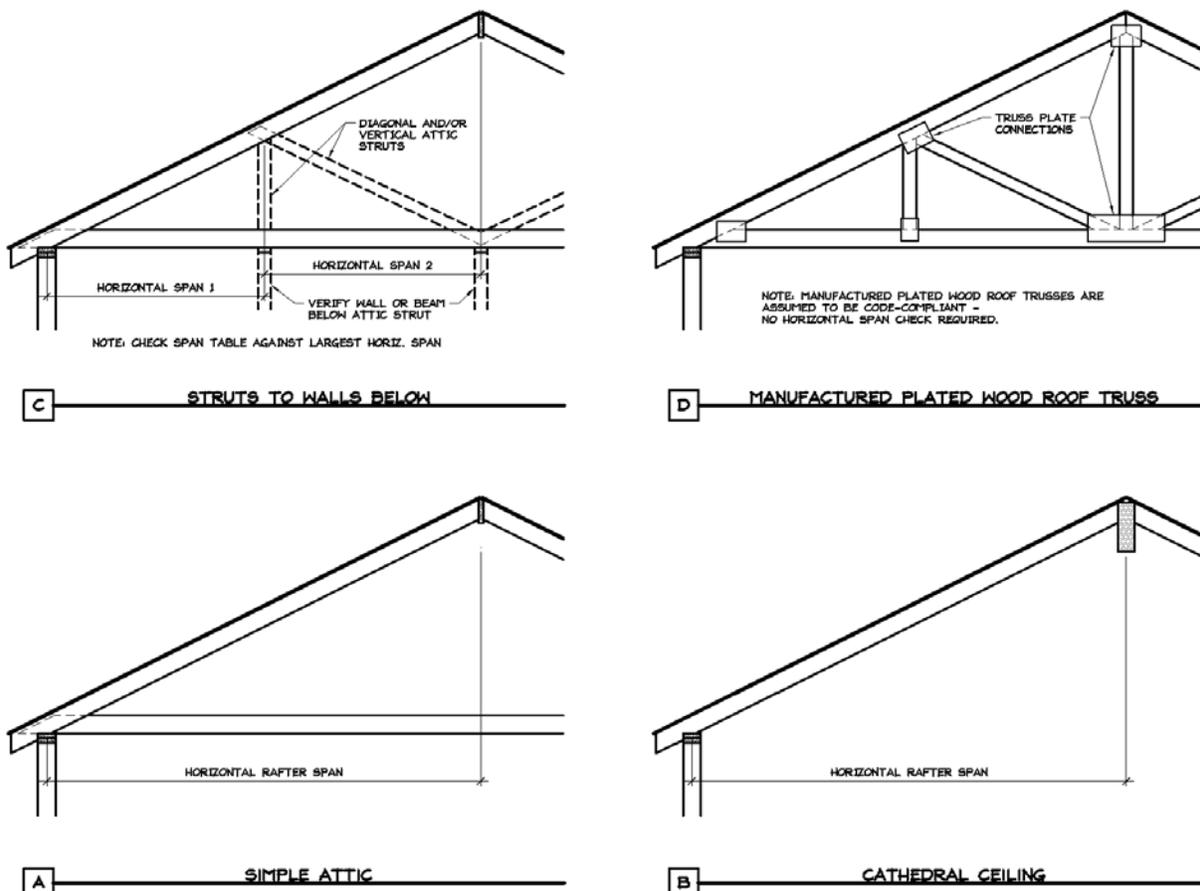

Figure 4. Definition of Rafter Horizontal Rafter Span
- 5) Measured rafter horizontal span (see Figure 4): _____' - _____"ft-in
- See Figure 4 for definition of roof rafter maximum horizontal span.